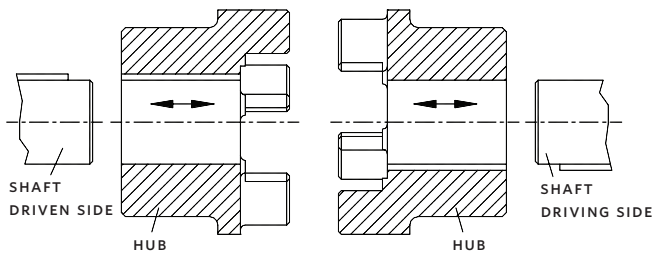

FIG 1: ASSEMBLY OF THE HUBS
- Mount the hubs on the shaft of driving and driven side (see **FIG 1**).